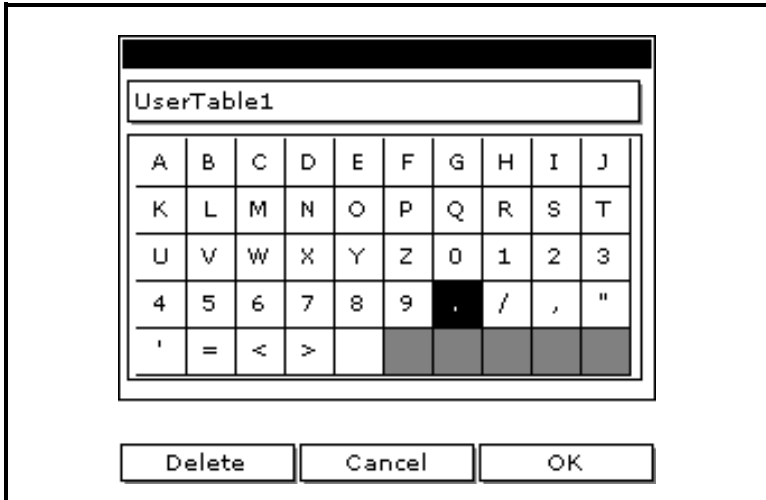

Figure 4-10: The Text Creation Window
3. Use the arrow keys to move to the Table ID box and press [ENTER]. A screen similar to Figure 4-10 below appears.